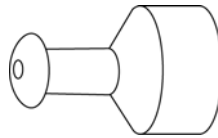

Figure 4: Positioning the eartip
1. Slip the appropriate size eartip onto the nose cone of the probe, making sure the rounded tip of the eartip sits flush with the tip of the nose cone (Figure 4).